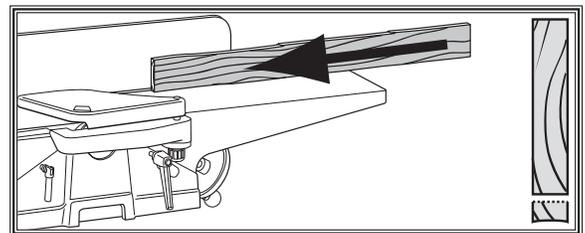

Figure 26. Edge joint on the jointer.
3. **Edge Joint on the Jointer:** The concave edge of the workpiece is jointed flat with the jointer (see Figure 26).